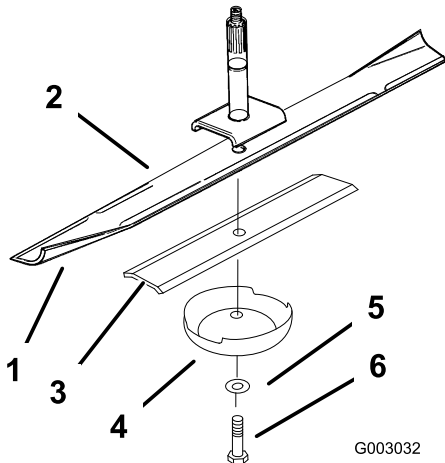
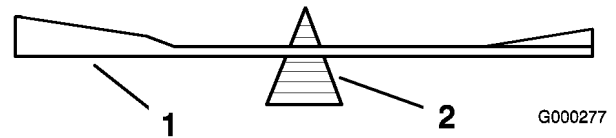

Figure 50
Figure 52
2. Remove the blade bolt, blade stiffener, washer, and blade from the spindle shaft (Figure 50).
2. Check the balance of the blade by putting it on a blade balancer (Figure 52). If the blade stays in a horizontal position, the blade is balanced and can be used. If the blade is not balanced, file some metal off the end of the sail area only (Figure 50). Repeat this procedure until the blade is balanced.
1. Install the blade onto the spindle shaft (Figure 50).
Important: The sail part of the blade must be pointing upward, toward the inside of the mower to ensure proper cutting (Figure 50).
2. Install the blade stiffener, flat washer and blade bolt (Figure 50).